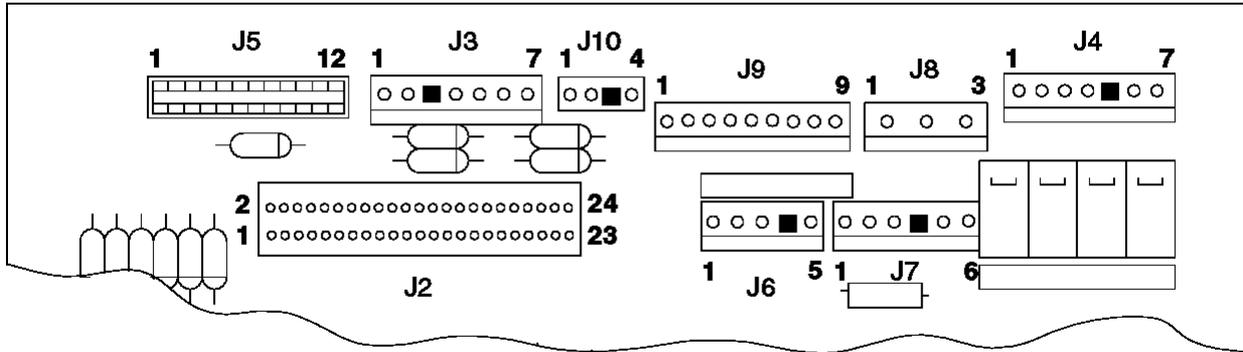

Figure 6-23. Printer Card Connections
- Check for +34.5 to +41 V DC between printer card connector J10 pin 2 (positive) and pin 1 (negative). See Figure 6-23.
- Check for +4.75 to +5.25 V DC between printer card connector J9 pin 6 (positive) and pin 4 (negative). See Figure 6-23.